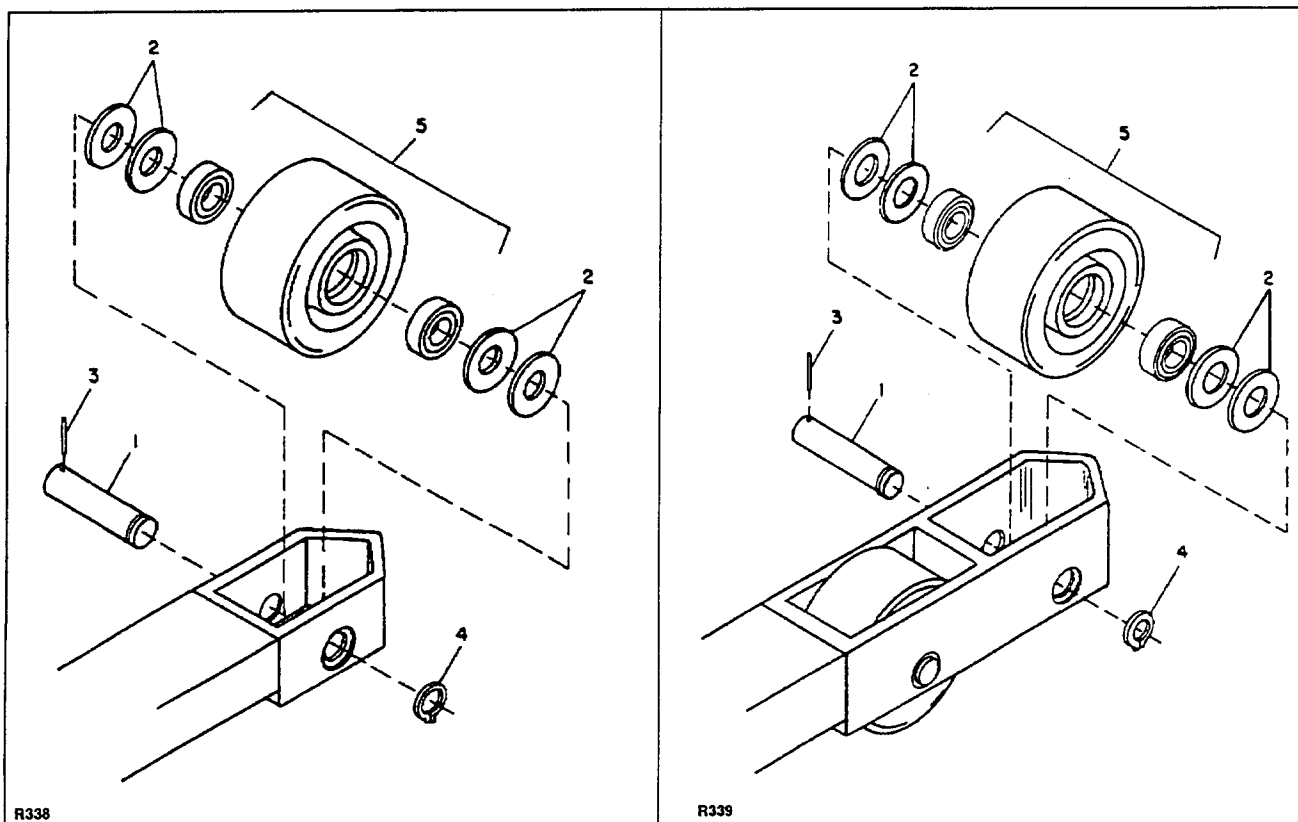

Figure 7-4. Load Wheels
5. Remove the snap ring (4, Figure 7-4) and remove the load wheel axle (1). The load wheel and bearing washers and spacers (2) will fall out.